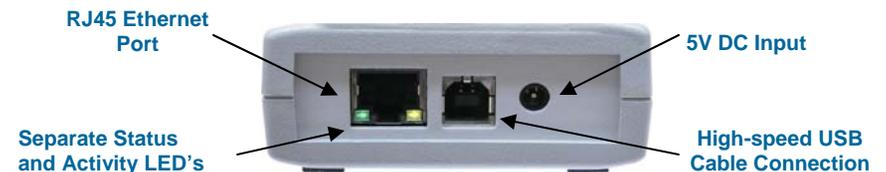

FIGURE 1—LAN, USB & Power Endplate
2. Connect the 5v DC power plug of the power supply to the 5-volt DC input on the LAN560 (see figure 1).
3. Attach the USB cable to an available USB port on the PC and to the USB connector on the LAN560 (see figure 1).